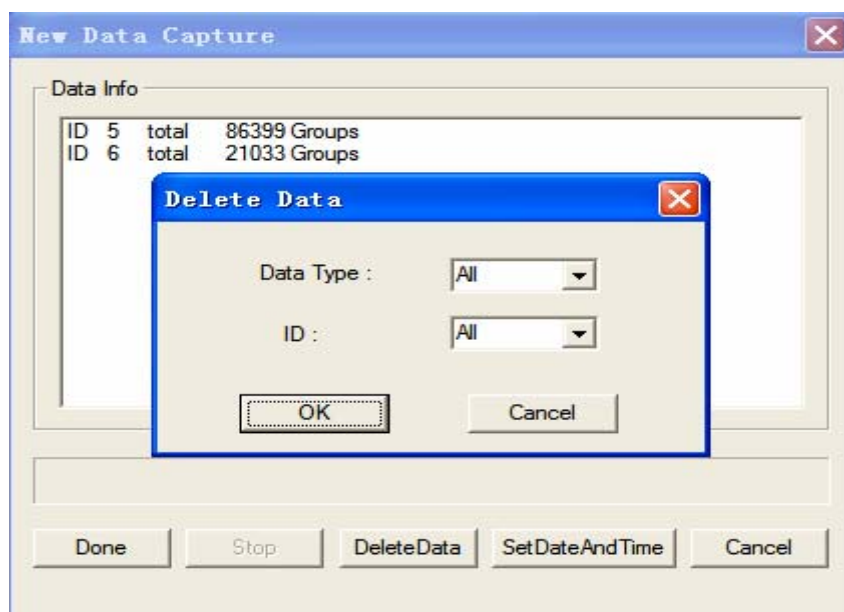
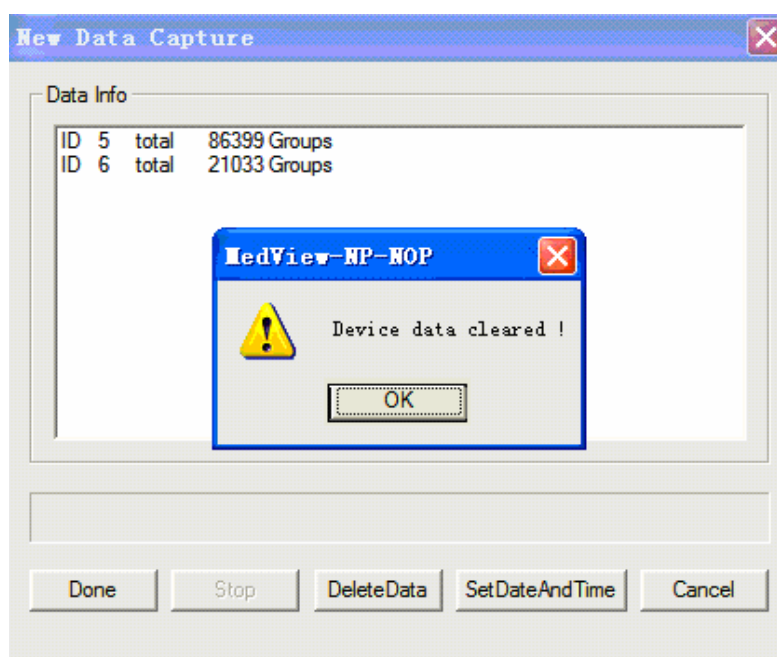

Figure 3-7
Figure 3-8 Click "OK" button
(1) Stop: During data transmission, click “Stop” button, the data transmission will stop.
(2) Delete Data: Click “DeleteData”, the following figure will appear, as shown in Figure 3-7. Select the “Data Type” and “ID” from their drop-down lists, and then click the “ok” button to confirm. The figure 3-8 will appear.